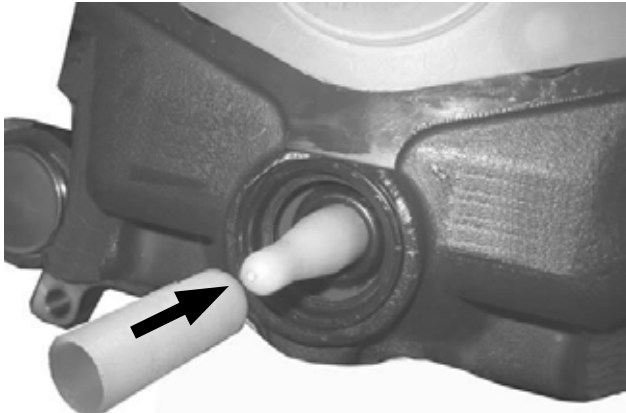

Figure 83: *Installing adjuster boot*
6. **Lightly grease** the new adjuster boot only at the inner boot bead as indicated in Figure 83.